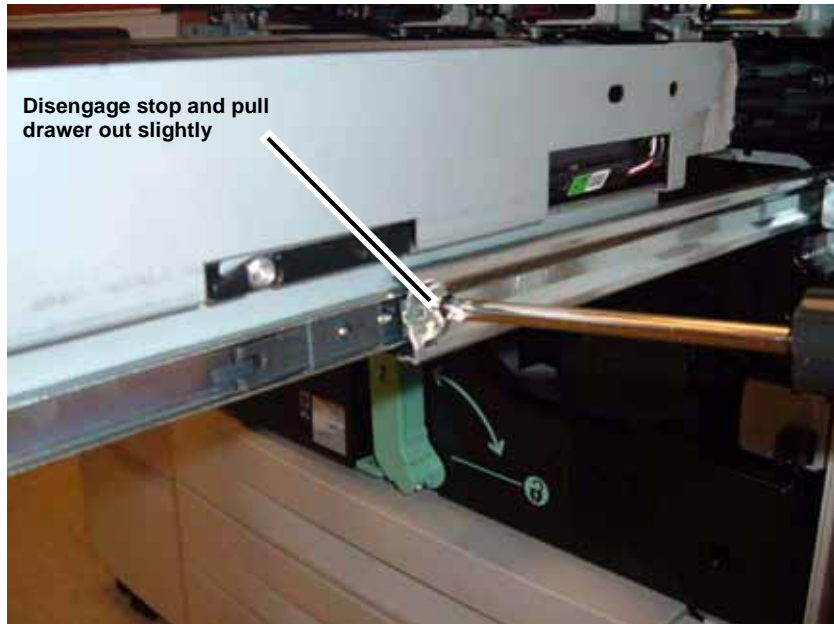

Figure 3 Disengaging right second stop
8. Disengage second stop on the right side (Figure 3).